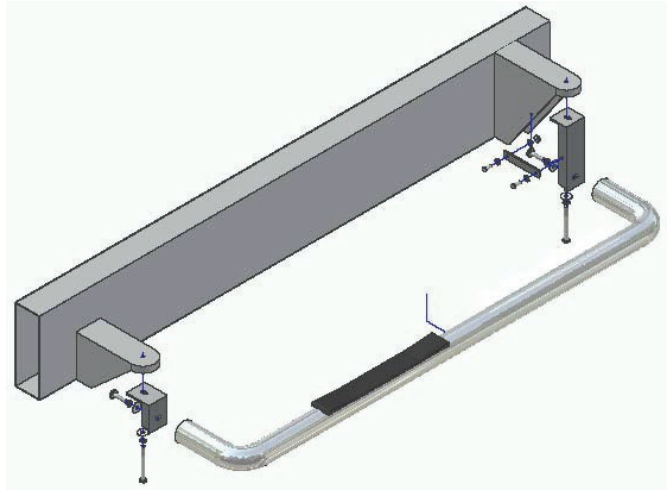

Figure 1 - Full assembly view
1. Begin installation by working on the driver-side of the vehicle, see figures 1 through 3.